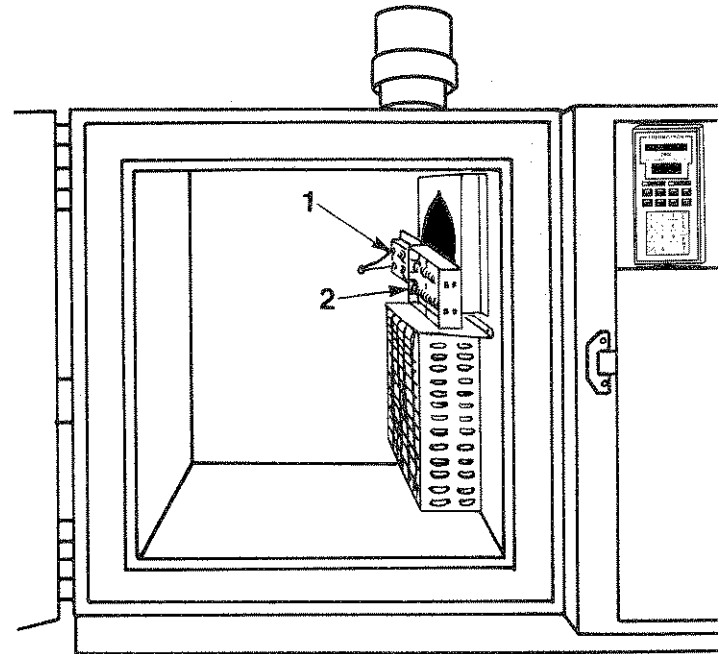

FIGURE D5
5. The heat links (1) are mounted behind the heater (2). See Figure D5. If necessary, see the electrical drawing in the Parts List and Drawings section of the manual. The heat links are labeled HL on the electrical drawing.